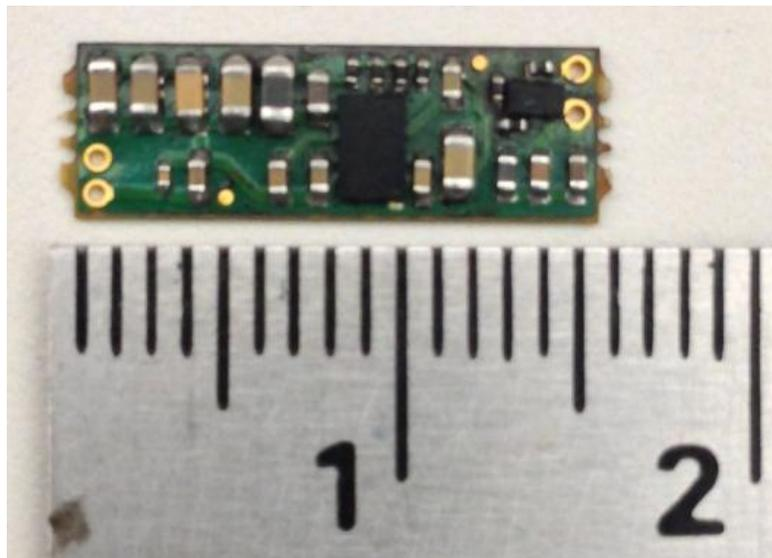

Figure 1. Board Photo
- TIDA-00318 was tested on a bench setup with wireless receiver coil TDK WR222230 and a 110 mAh Li-Ion battery as shown in the Figure 1. The test equipment is as follows:
- Passive Voltage Probes (4) : Tektronix P6139B – 500 Mhz, 8 pF, 10 MΩ, 10x
- Keithley Multi-meter 2000 (5)